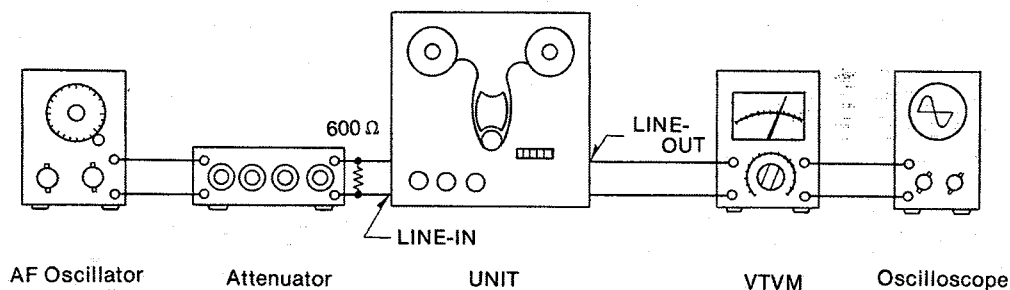
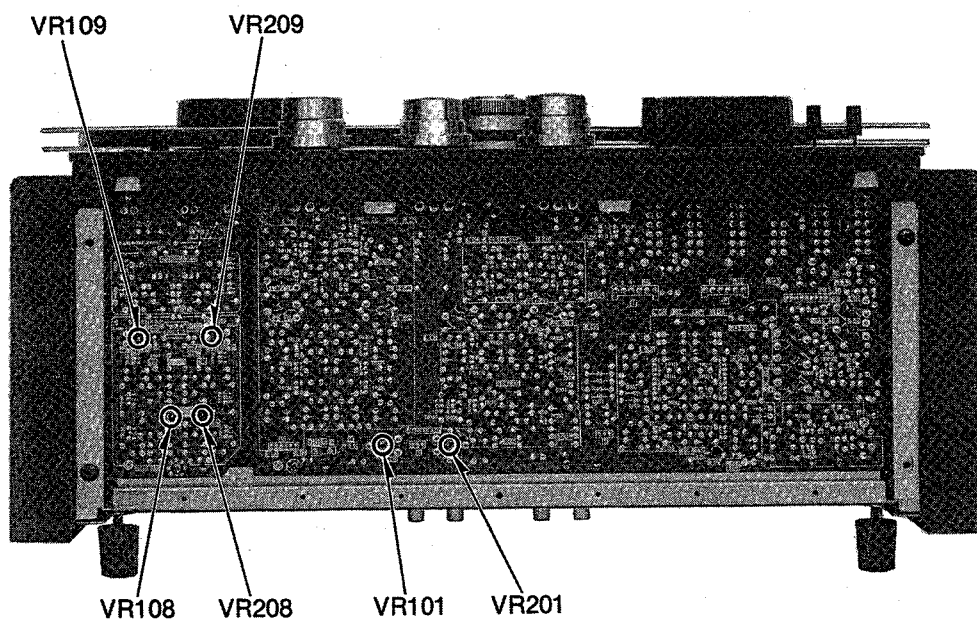
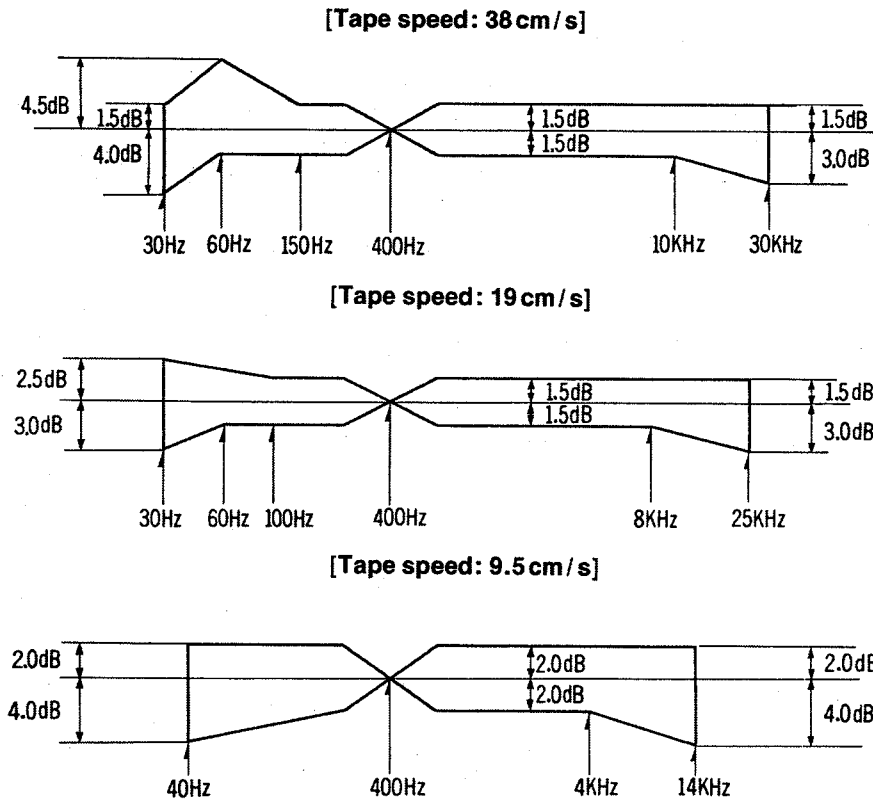
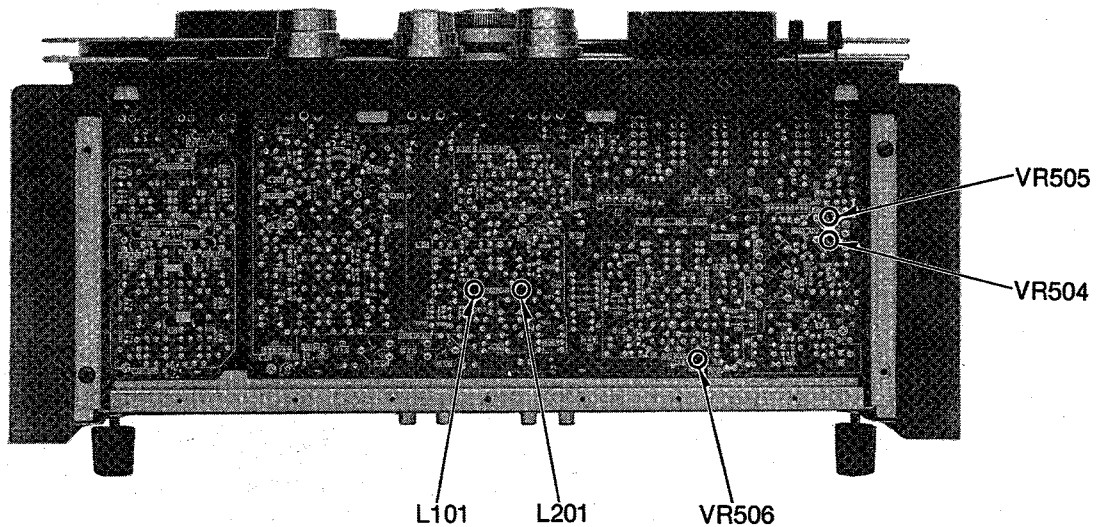

Fig. 36
Fig. 37
Fig. 46
Fig. 47
Standard recording level	<p>1. Test equipment connections are shown in fig. 36.</p> <p>2. Supply 1 kHz signal (<math>-24\text{dB} \pm 3\text{dB}</math>) from AF oscillator, through ATT, to LINE-IN jacks.</p> <p>3. Set the output control to "8" position on front panel and confirm that the output level at LINE-OUT jacks on VTVM becomes 0.55V.</p> <p>[Adjustment]</p> <p>1. If the measured value is not within standard value, adjust the Line-in level adjustment VR, VR101 (L-CH) and VR201 (R-CH), (See fig. 37.)</p> <div style="border: 1px solid black; padding: 5px; margin: 10px auto; width: fit-content;"> <p>Standard recording levels: Line-in: <math>-24\text{dB} \pm 3\text{dB}</math>  Mic-in: <math>-72\text{dB} \pm 2\text{dB}</math></p> </div>
<p>Level meter for source monitor</p>	<ol style="list-style-type: none"> <li>1. Test equipment connections are shown in fig. 36.</li> <li>2. Set the monitor selector to "SOURCE" position.</li> <li>3. Set the output control to "8" position on front panel.</li> <li>4. Supply 1 kHz signal (<math>-24\text{ dB} \pm 3\text{ dB}</math>) from AF oscillator, through ATT, to LINE-IN jacks.</li> <li>5. Adjust ATT so that the output level at LINE-OUT jacks on VTVM becomes 0.55V.</li> <li>6. Then confirm that the level meter indicates 0VU position.</li> </ol> <p>[Adjustment]</p> <ol style="list-style-type: none"> <li>1. If the level meter does not indicate 0VU position in the above condition, adjust the level meter adjustment VR, VR108 (L-CH) and VR208 (R-CH). (See fig. 37.)</li> </ol> <p>[Confirmation]</p> <ol style="list-style-type: none"> <li>1. Place unit into the above measurement condition.</li> <li>2. Set the meter scale selector to "+6dB" position.</li> <li>3. Confirm that the level meter indicates within <math>-3 \pm 1\text{ VU}</math> on "+3dB" scale.</li> </ol>
<p>Level meter for tape monitor</p>	<ol style="list-style-type: none"> <li>1. Test equipment connections are shown in fig. 36.</li> <li>2. Place unit in the same condition as for "Standard recording level adjustment."</li> <li>3. Thread "open" blank test tape (QZZORA218EX).</li> <li>4. Set the meter scale selector to "+3dB" position.</li> <li>5. Set the monitor selector to "tape" position (both channels).</li> <li>6. Set the recording mode selector to "ON" position (both channels).</li> <li>7. Place unit into recording mode.</li> <li>8. Then confirm that the level meter indicates 0VU.</li> </ol> <p>[Adjustment]</p> <ol style="list-style-type: none"> <li>1. If the level meter does not indicate 0VU in the above condition, adjust the level meter adjustment VR, VR109 (L-CH) and VR209 (R-CH). (See fig. 37.)</li> </ol>
- \* Measurement instrument connections are as shown in figure 36.
Overall frequency response	<ol style="list-style-type: none"><li>1. Test equipment connections are shown in fig. 36.</li><li>2. Thread blank test tape QZZORA218EX.</li><li>3. Supply 400Hz signal (<math>-24</math> dB <math>\pm</math> 3dB) from AF oscillator, through ATT, to LINE-IN jacks and adjust ATT so that the output level at LINE-OUT jacks on VTVM becomes 0.55 V.</li><li>4. Next, adjust ATT so that the input level is <math>-20</math> dB below standard recording level. (Standard recording level = 400 Hz, <math>-24</math> dB)</li><li>5. Place unit into recording mode.</li><li>6. Set the monitor selector to "Tape" position (both channels).</li><li>7. Record each frequency (400 Hz, 30 Hz, 60 Hz, 150 Hz, 1 kHz, 10 kHz, 20 kHz and 30 kHz) at the same level.</li><li>8. Playback (or tape monitor) and express in dB the difference between playback (or tape monitor) output level of each frequency based on playback (or tape monitor) output level of 400 Hz.</li><li>9. Make sure that the measured value is within the range specified in the overall frequency response chart, as shown in fig. 46.</li><li>10. If the measured value is not within the range specified, adjust following points.</li></ol>
6. Next vary the input signal frequency between 24 kHz and 5 kHz, and confirm that the frequency response is within the range shown in fig. 46.
<p>9. If it is not within 0— -1 dB, adjust VR505 and VR504 for within this range.</p> <p>10. Once again change the tape speed to 19cm/s, and input signal frequency to 24kHz, and confirm that playback output is as described in step 4 above.</p> <p>11. If it is not, adjust peaking coils L101 (for L-CH) and L201 (for R-CH) shown in figure 47.</p> <p>After the above measurements and adjustments, measure the overall frequency response at 19cm/s and 38cm/s tape speeds, and confirm that it is within the range shown in fig. 46.</p> <p>Characteristics at 9.5 cm/s tape speed</p> <p>After adjustments described above are complete for 38cm/s and 19cm/s, confirm frequency response at 9.5 cm/s.</p> <ol style="list-style-type: none"> <li>1. Record an input signal of 14kHz, -44 dB at 9.5 cm/s tape speed, and measure the playback output.</li> <li>2. If the measured value is not within the range shown in fig. 46, adjust VR506 so that it is within this range.</li> </ol>